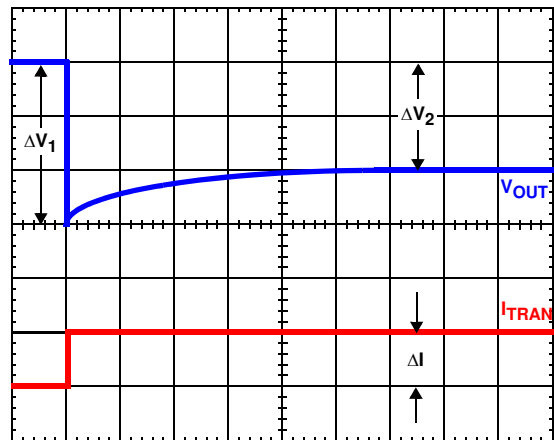

FIGURE 19. TIME CONSTANT MISMATCH BEHAVIOR
Due to errors in the inductance or DCR it may be necessary to adjust the value of  $R_{COMP}$  to match the time constants correctly. The effects of time constant mismatch can be seen in the form of droop overshoot or undershoot during the initial load transient spike, as shown in Figure 19. Follow the steps below to ensure the R-C and inductor  $L/DCR$  time constants are matched accurately.
2. Record  $\Delta V_1$  and  $\Delta V_2$  as shown in Figure 19.